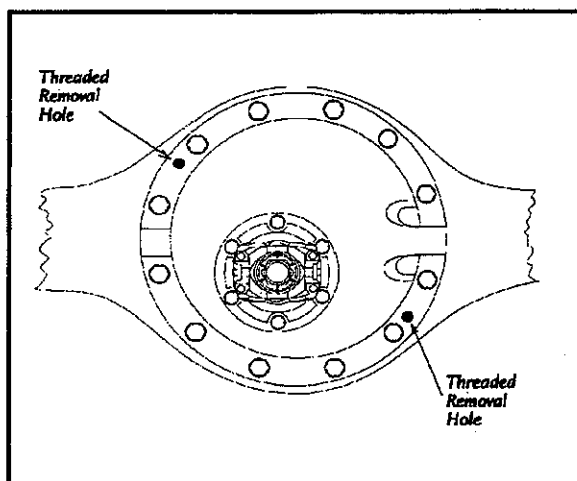

Figure 6—Carrier Housing Flange
10. Install two ½ (12.7 mm)-13 bolts into threaded holes in carrier housing flange. (See Figure 6—Carrier Housing Flange.)